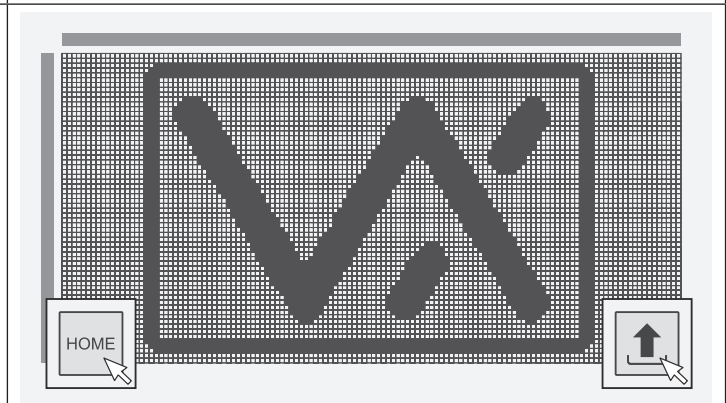
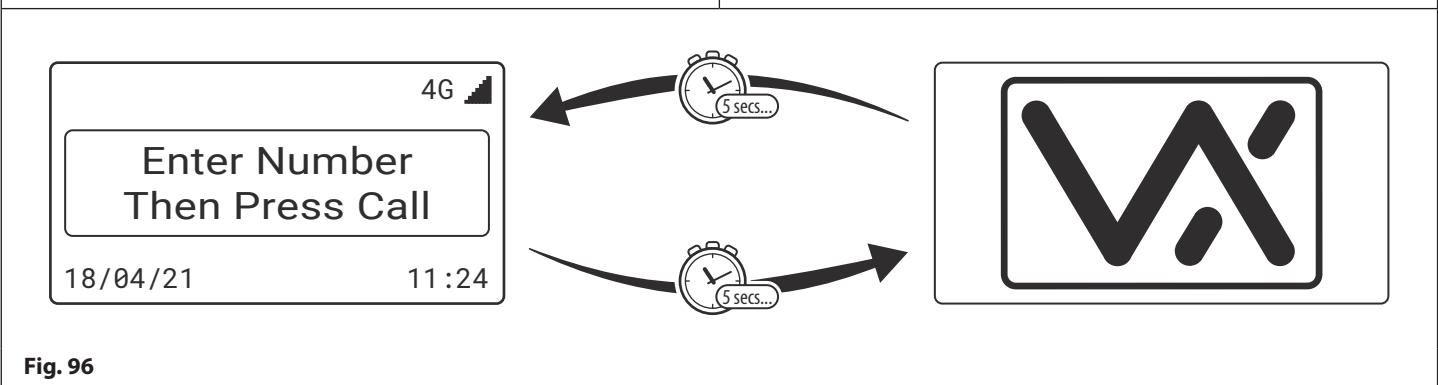

Fig. 95
Fig. 96
8. Click on the home screen icon again to toggle back to the imported image/logo from step 1 and then click on the upload to panel icon, as shown in **Fig.95**. This image/logo will be uploaded back into the panel (including any edits made to it from step 6).
After the display switch time has elapsed it will then switch to the 2nd home screen (i.e. the company logo that was uploaded from **Fig.95**) and then switch back again to the new default home (welcome) screen and so on, as shown in **Fig.96**.